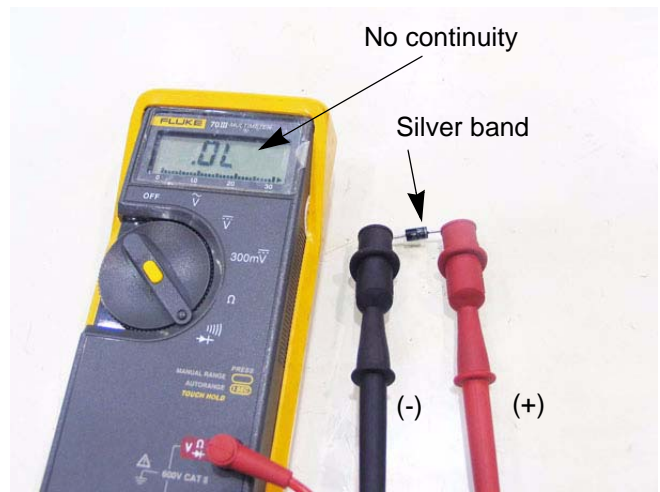

Figure 7.49
- 12g. The meter should indicate no continuity. See Figure 7.49.